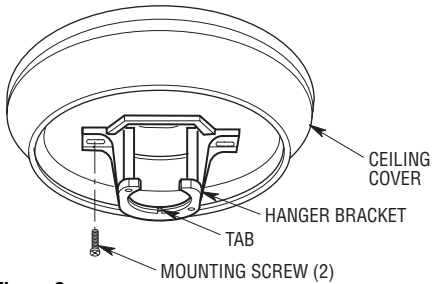

Figure 2
- 2. Install the ceiling cover and hanger bracket together onto the outlet box using the two screws supplied with the outlet box. The hanger bracket will nest into the ceiling cover between the raised guides on the bottom surface of the cover. The center hole of the ceiling cover provides visual access to view installation of the outlet box screws into the threaded mounting holes of the box (Figure 2).